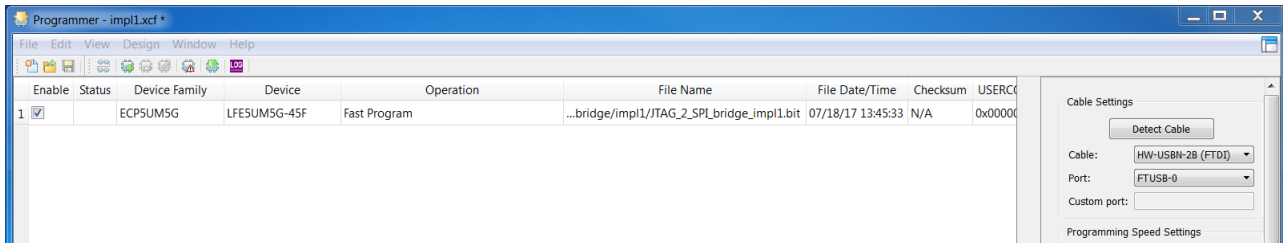

Figure 6.1. Programmer Main Interface
1. Open Diamond Programmer. Select the appropriate device using the Device Family and Device drop down options as shown in Figure 6.1 (example of ECP5-5G versa board).